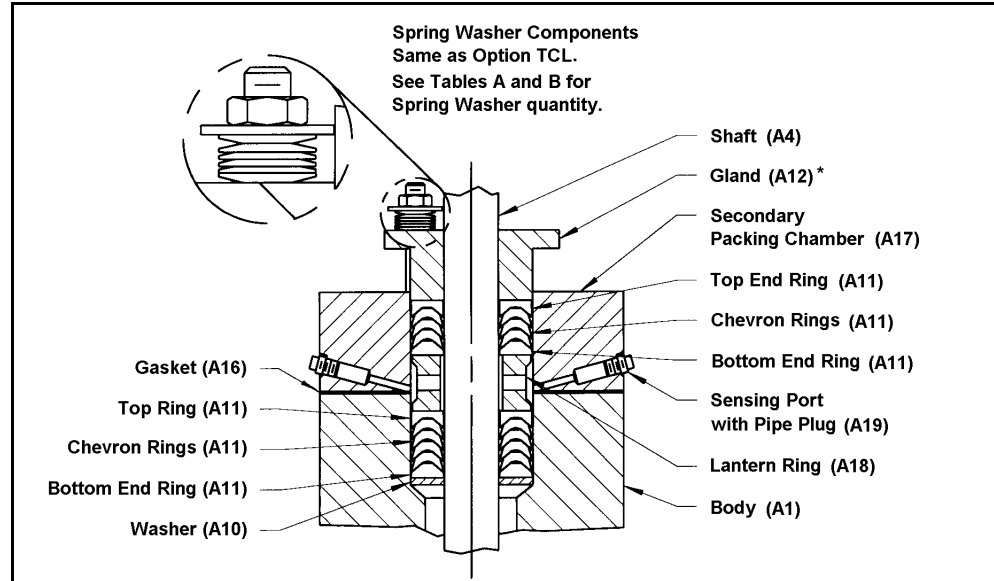

Figure 2—Packing Option TCDL
- a. Place the primary (lower) set of packing in the body, one ring at a time, in the configuration shown in Figure 2. Do not lubricate. Start each chevron ring into the packing chamber at a slight angle, and push each ring carefully into position so that the sealing lips do not bend over.
- b. Place the new gasket (A16), the secondary packing chamber (A17), and the lantern ring (A18) in the configuration shown in Figure 2.
- c. Place the secondary (upper) set of packing in the secondary packing chamber (A17), one ring at a time, as shown in Figure 2—do not lubricate.